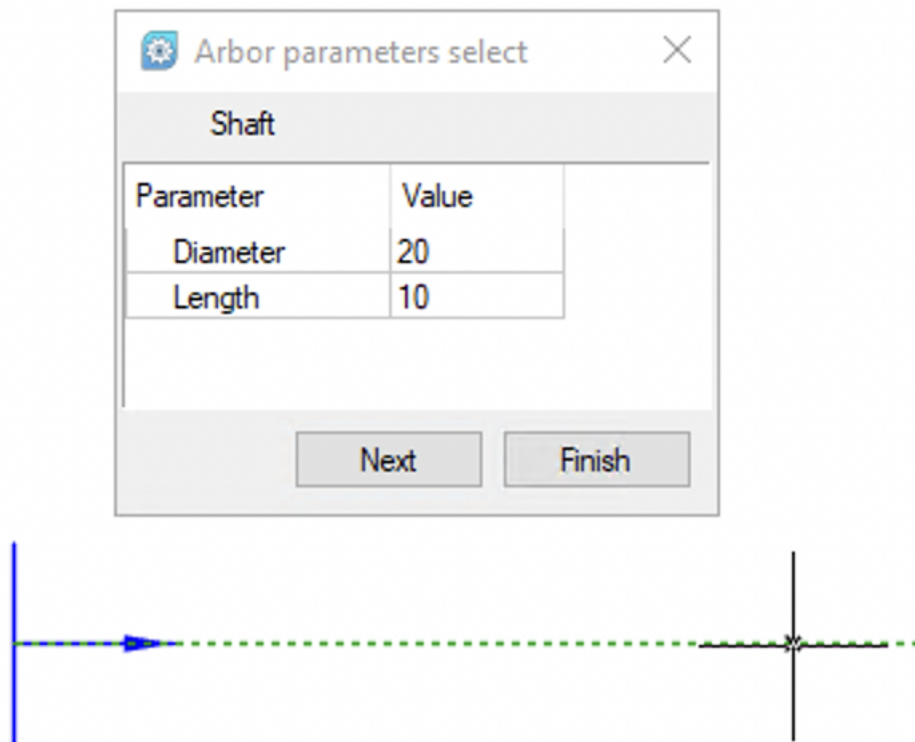

Fig. 2. Selecting the direction of the shaft axis
- Specify the direction of the shaft axis by using the ORTHO snap: move the mouse cursor to the right of the center of coordinates and press **Shift** + left-click (Fig. 2).